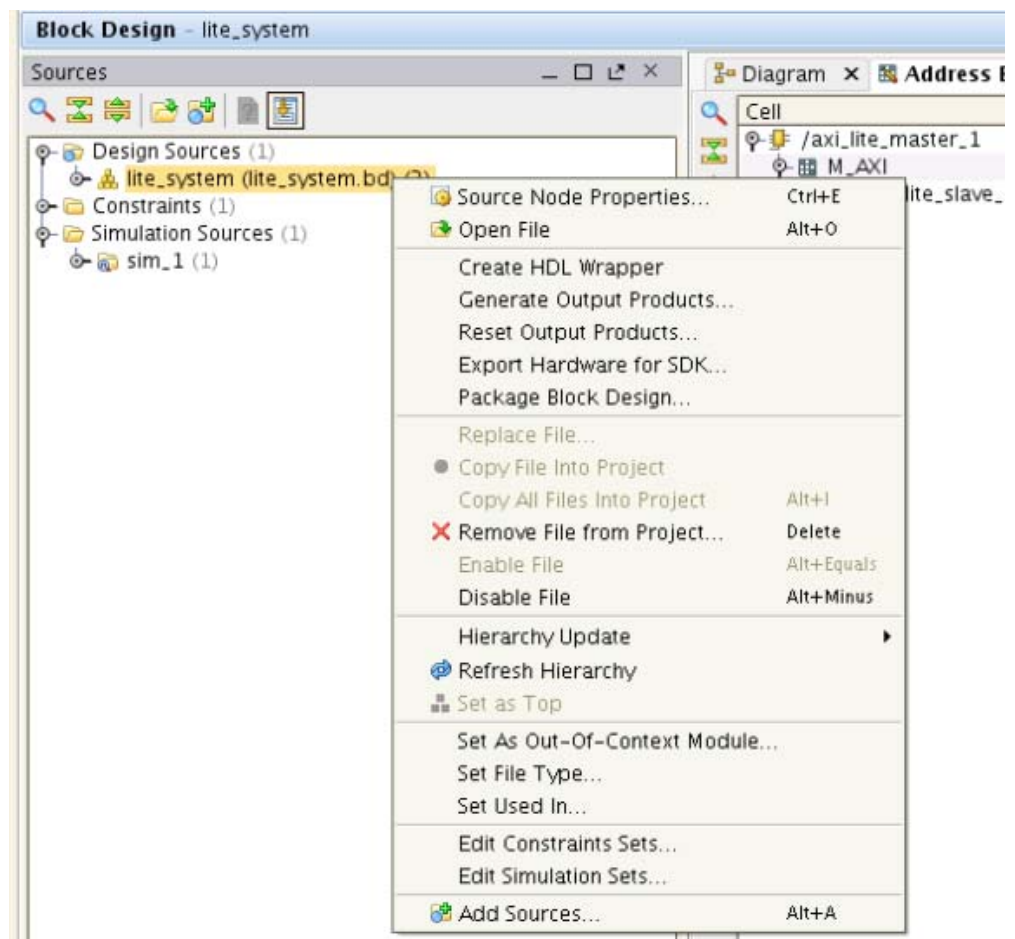

Figure 39: Sources Window: Create HDL Wrapper
2. In the Sources Window, select **lite_system**, right-click and select **Create HDL Wrapper** (Figure 39). This generates a HDL wrapper because the block diagram is not able to be the